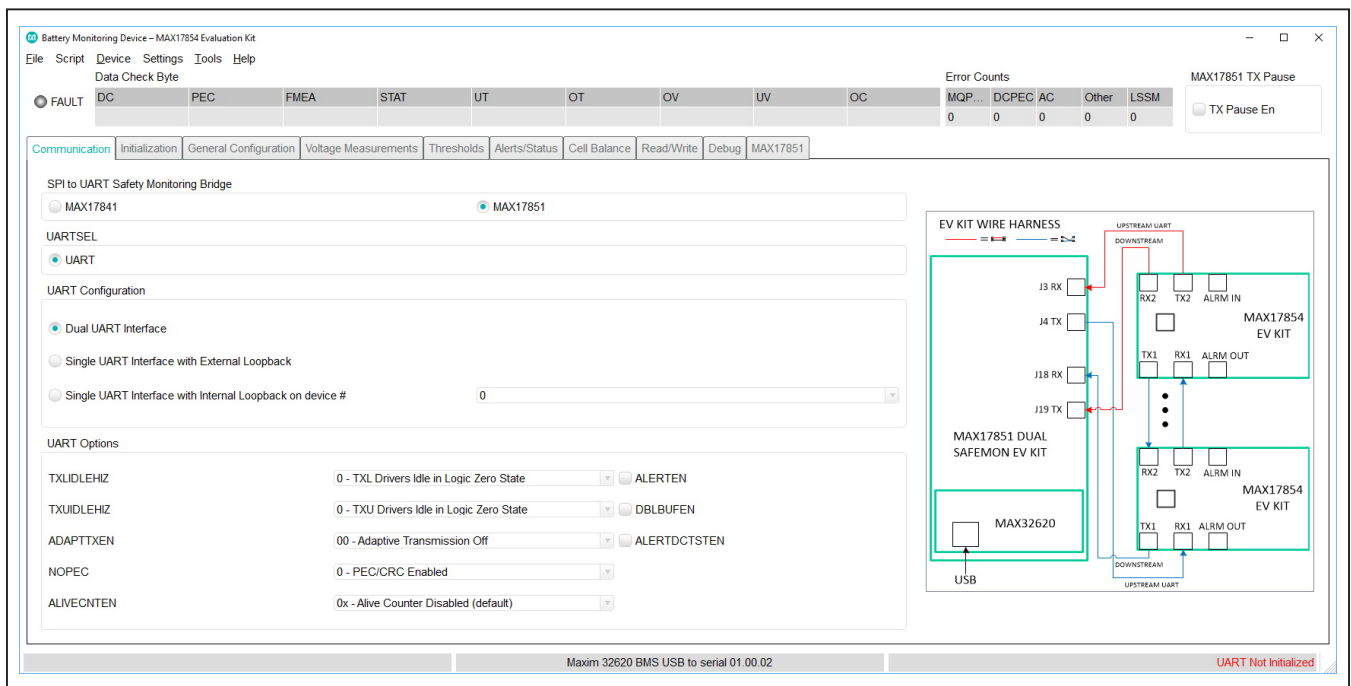
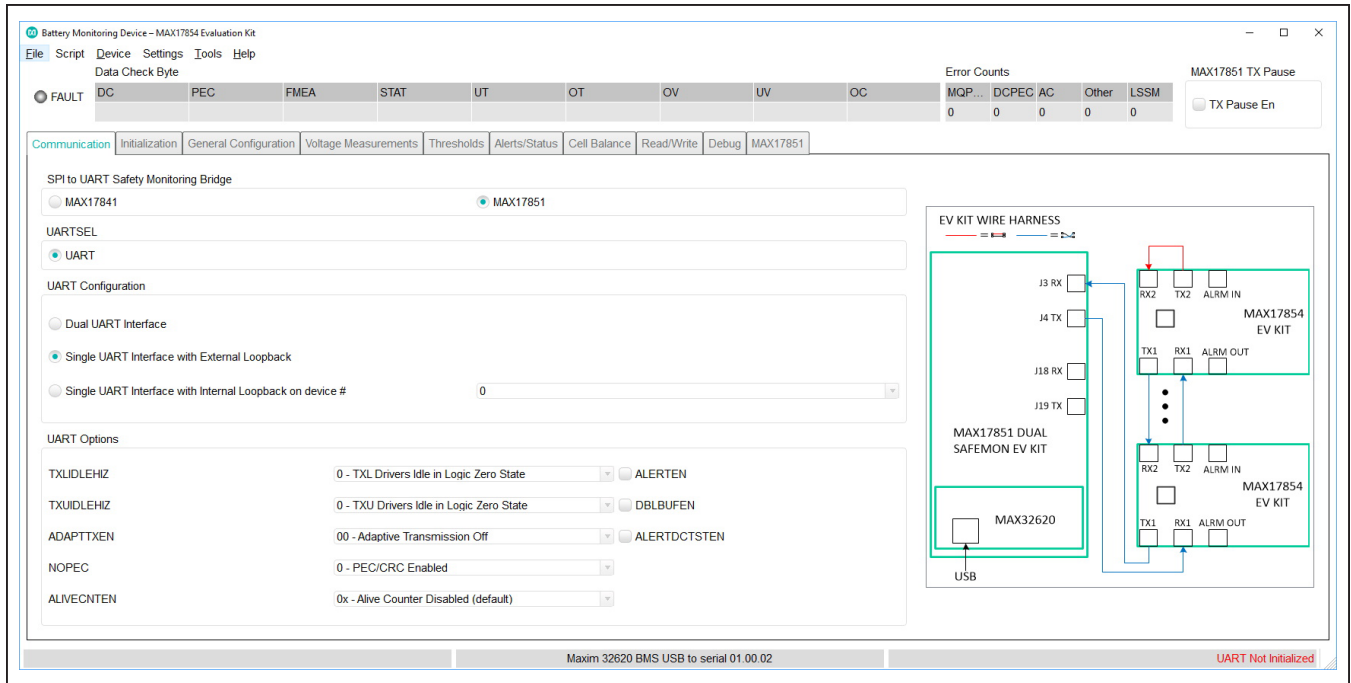
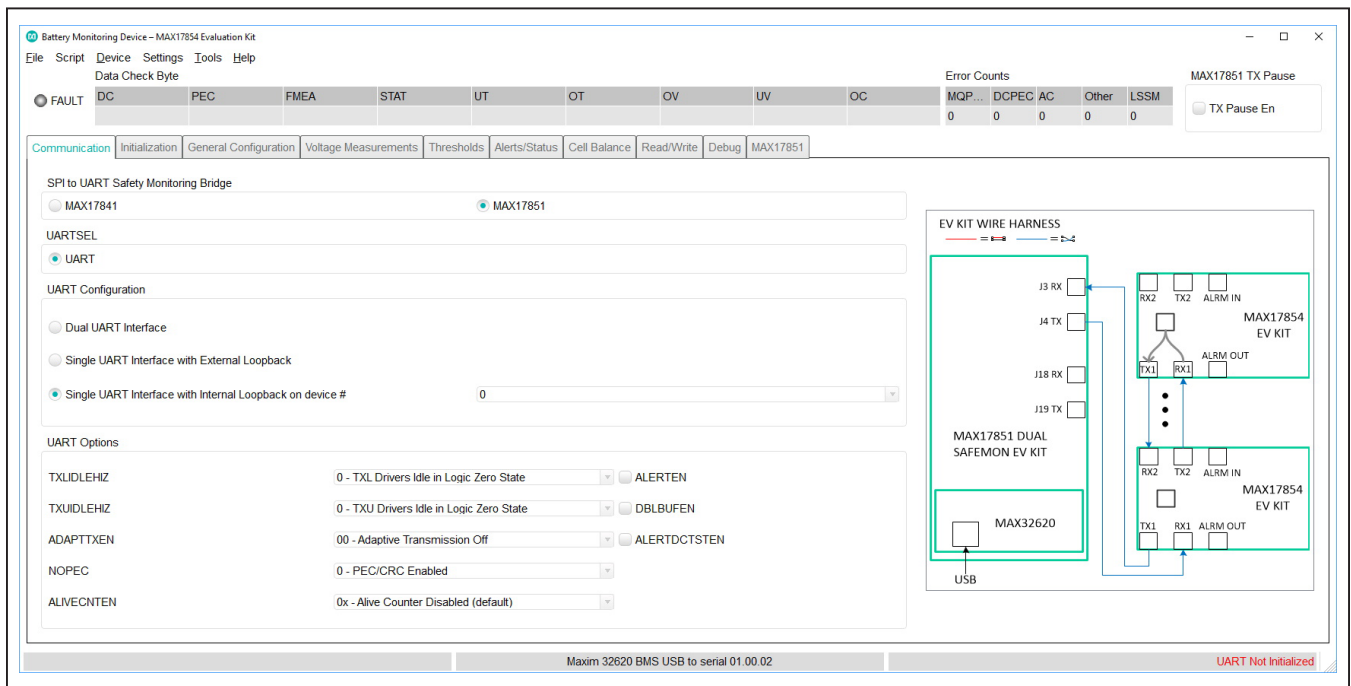

Figure 11. Communication Tab—Dual UART Interface
Figure 12. Single UART Interface with External Loopback
Figure 13. Single UART Interface with Internal Loopback on Device#
- 8) In the **Communication** tab (Figure 12), select the **MAX17851** radio button.
- 9) Click on the **Single-UART** radio button (Figure 12).
The GUI is preset to UART communication with a dual UART interface (see Figure 11). When selecting the UART configuration, the hardware graphic updates to reflect the
The MAX17854 EV kit is designed to support Single UART Interface with External Loopback, as shown in Figure 12. Follow the UART wiring changes shown in Figure 11, Figure 12, and Figure 13 for alternative UART configurations.